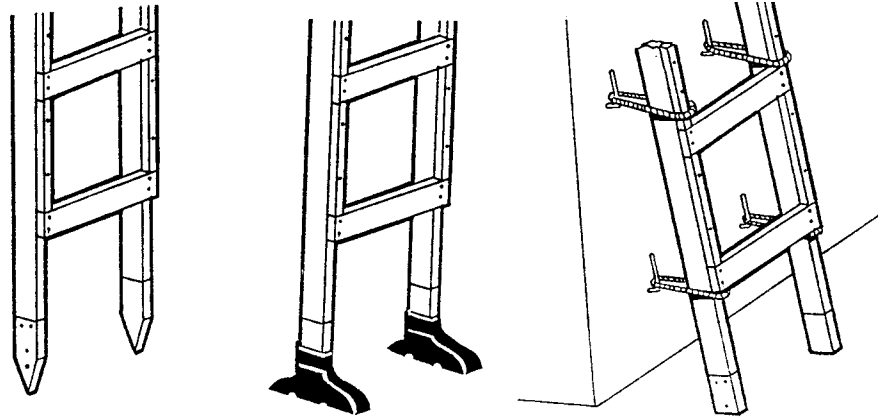

Figure 2—Securing the base of single or extension ladders
- Ladders must have slip-resistant safety feet or they must be secured to prevent slipping during use (Figure 2).